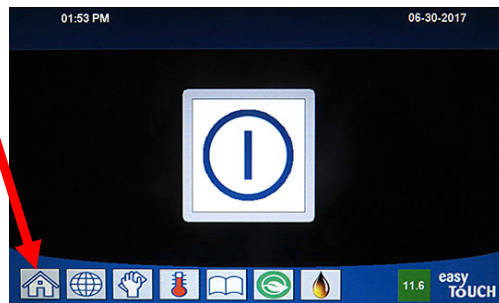

Figure 7
9. Press the HOME button (see Figure 7).
18. After two (2) minutes, remove the USB drive; reattach the USB cover and power cycle the fryer.
20. Press the "HOME" button (see Figure 7).
- After four (4) minutes, remove the USB drive; reattach the USB cover, proceed to the next step to confirm the Kitchen Connect Gateway software version.
- Press the “HOME” button (see Figure 7).
- Press the “HOME” button (see Figure 7)
- After four (2) minutes, remove the USB drive; reattach the USB cover, power cycle the fryer.